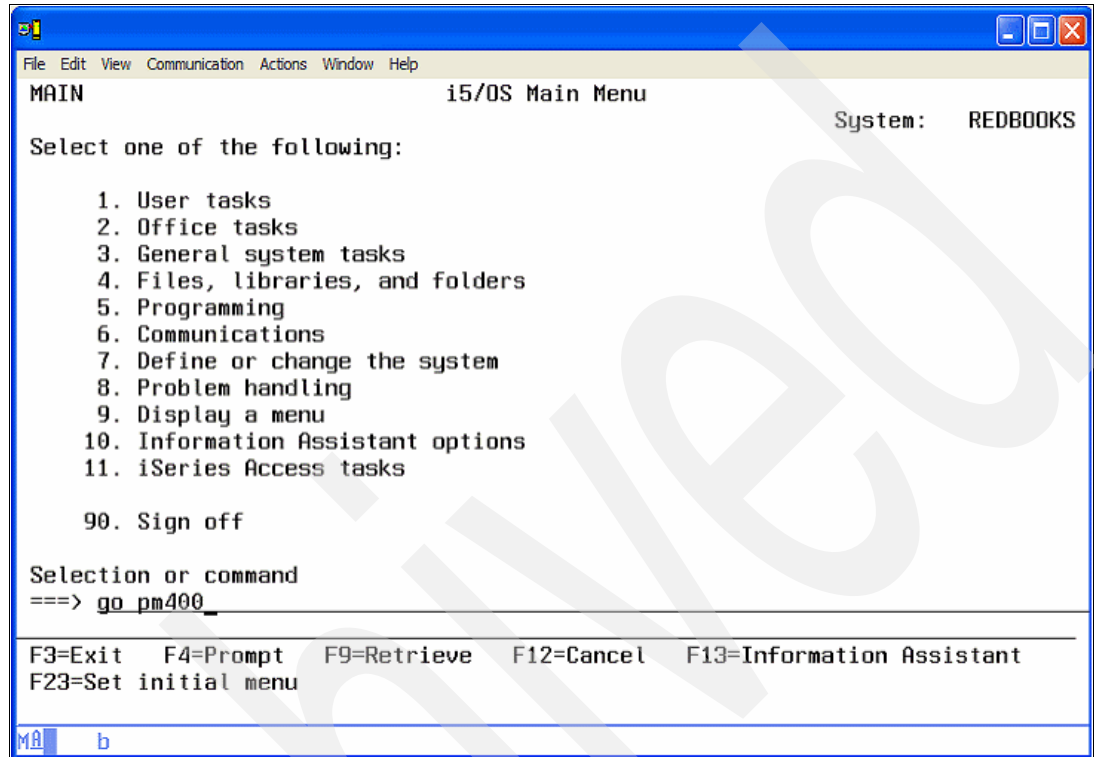

Figure A-8 Starting Performance Monitor
1. On a command line, enter `go pm400` (see Figure A-8).